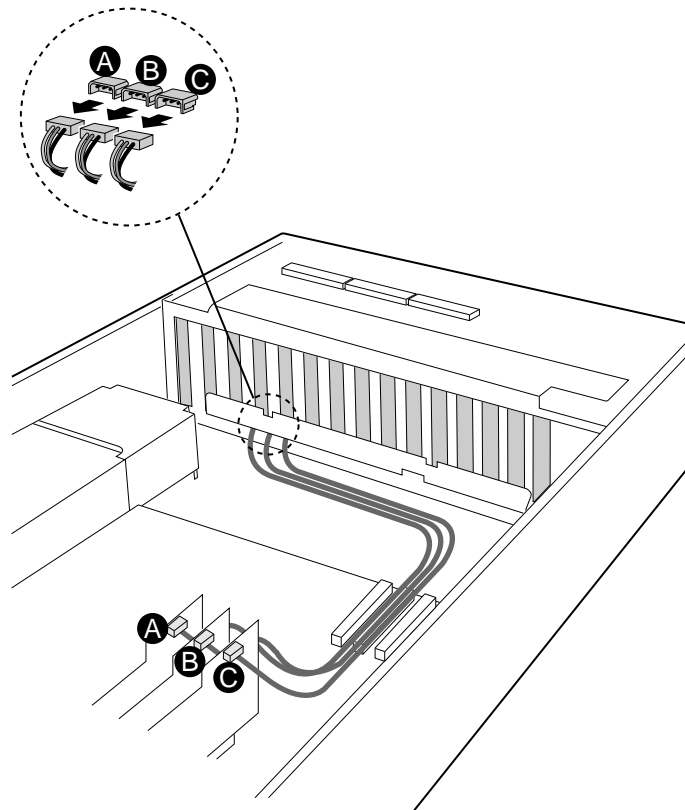

Figure 7. Removing the I²C Cables from the Backplane Board
- A. Make a note of the header positions of the three I²C Cable connectors. After installation of the SATA Cables has been completed, you will re-connect these connectors to the same headers. Carefully remove the I²C Cable connector labeled JP4 from its I²C Cable header on the backplane board. Carefully remove the I²C Cable connector labeled SL2J6 from its I²C Cable header in the HBA Card set. See Figure 7.
- B. Carefully remove the I²C Cable connector labeled JP6 from its I²C Cable header on the backplane board. Carefully remove the I²C Cable connector labeled SL3J6 from its I²C Cable header in the HBA Card set. See Figure 7.
- C. Carefully remove the I²C Cable connector labeled JP7 from its I²C Cable header on the backplane board. Carefully remove the I²C Cable connector labeled SL4J6 from its I²C Cable header in the HBA Card set. See Figure 7. Set the I²C Cable connectors on a static-free surface.